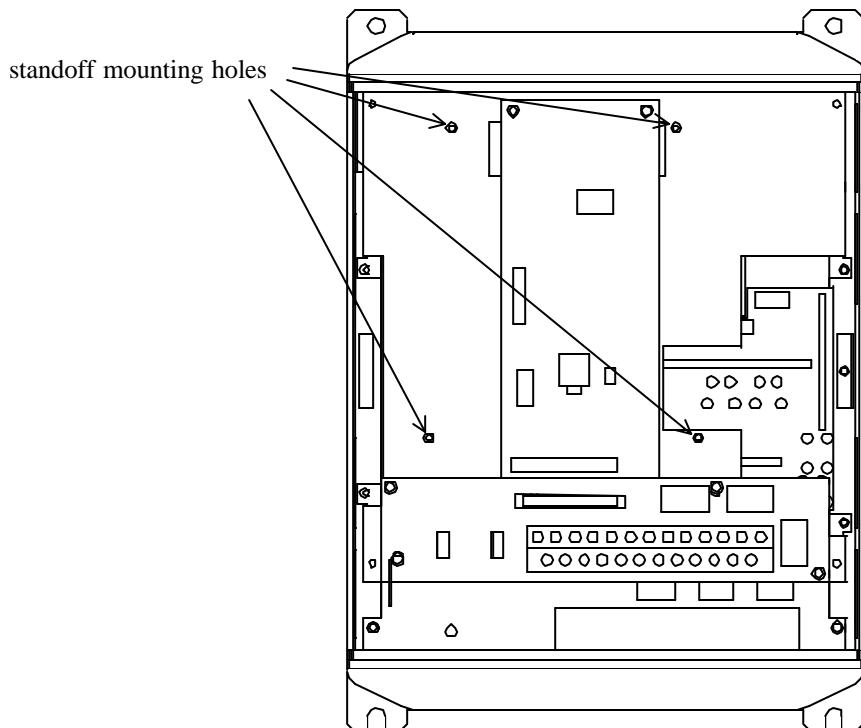

Figure 2: G3 with front cover and operation panel support bracket removed
7. Install the 4 nylon standoffs into the holes provided in the control board support bracket (refer to Figure 2).